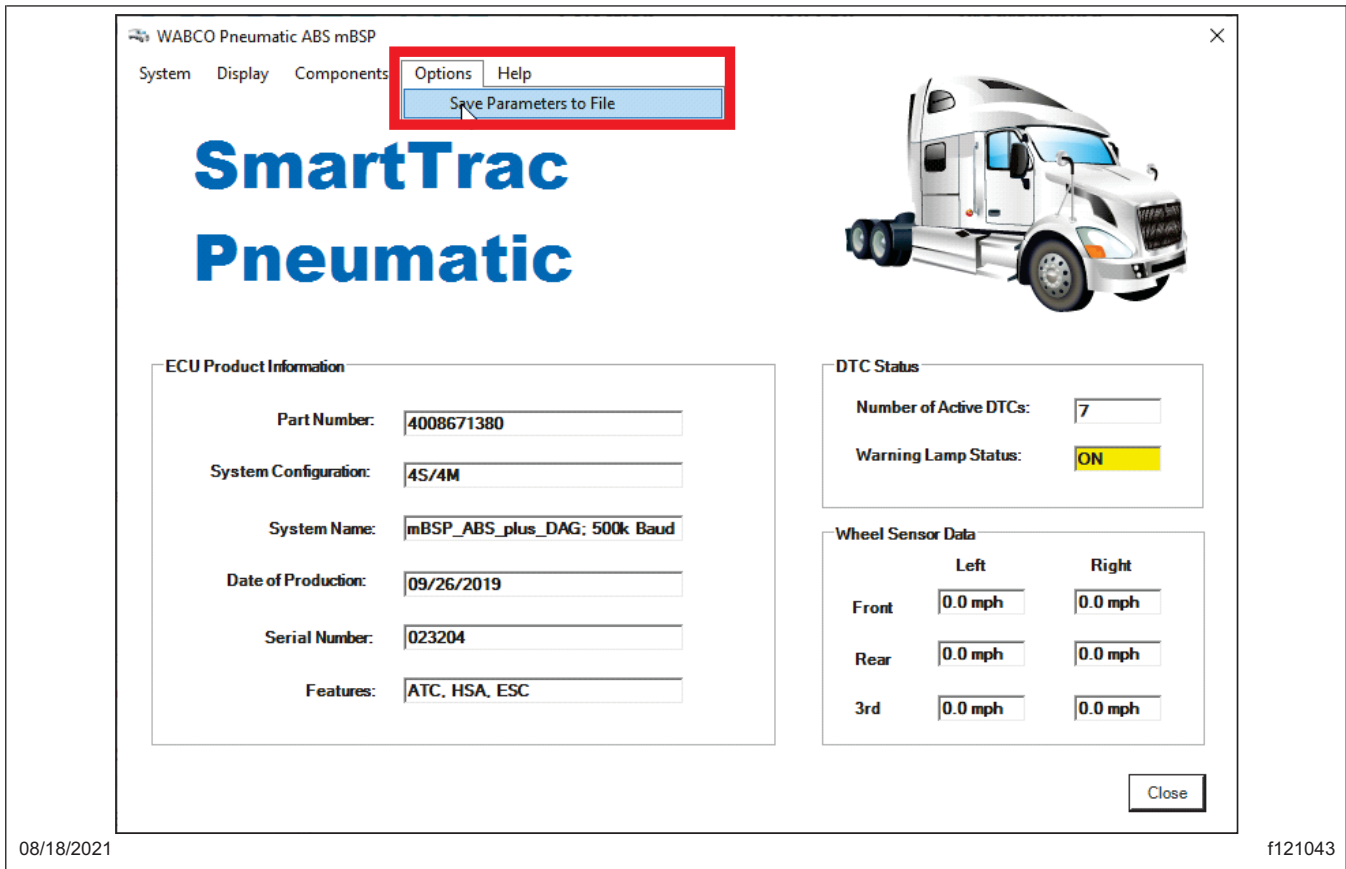

Fig. 33, Choosing the Install Location
20. Go to the 'Option' menu and select 'Save Parameters to File.' See Fig. 33.